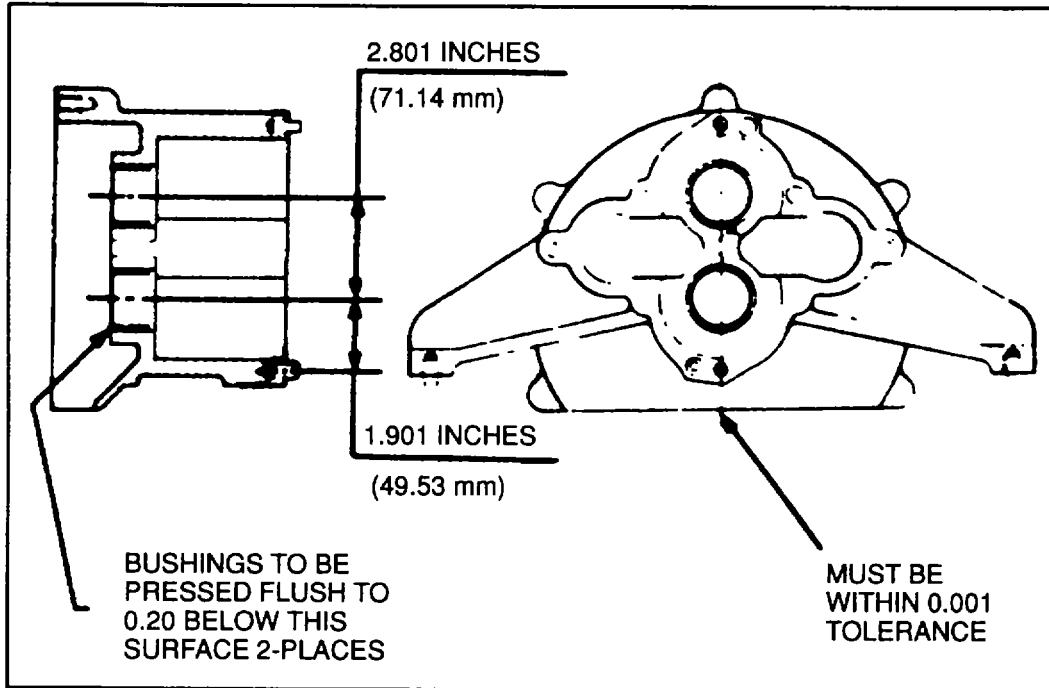
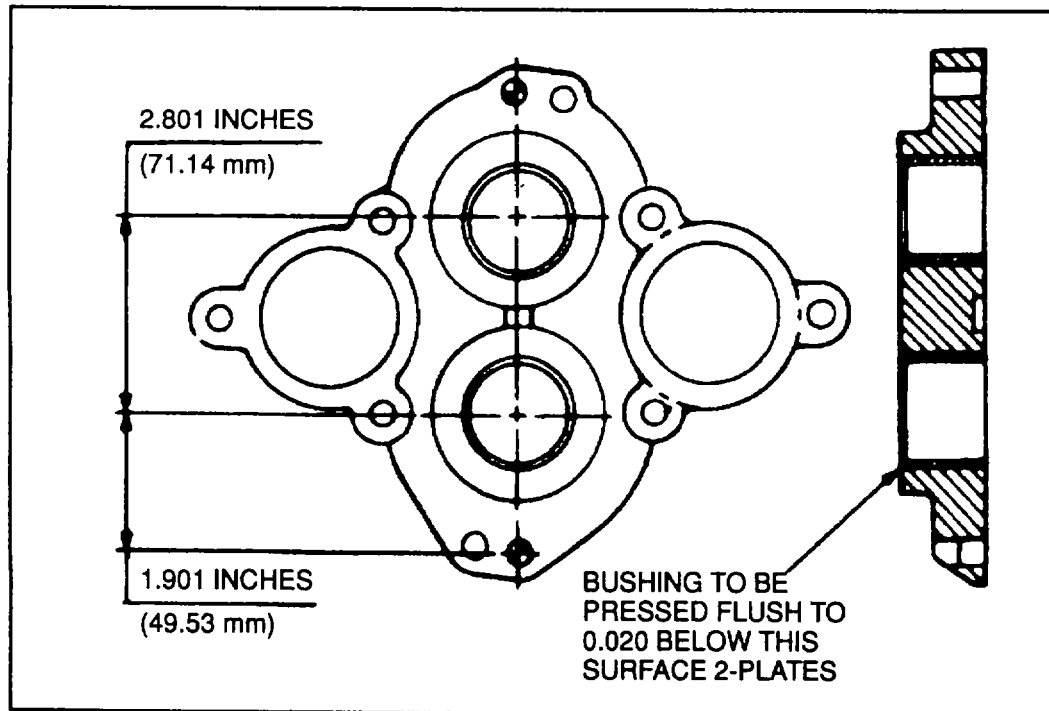

Figure 8-5. Dimensions of the Bushings In the Lubricating Oil Pump Body
Figure 8-6. Dimensions of the Bushings In the Lubricating Oil Pump Cover
- (1) Using bushing drivers and an arbor press, remove the worn bushings and press new bushings to depth shown in Figure 8-5 and Figure 8-6.
- (2) Using boring tool 3375206 bore the inside diameter of the new bushings in the body and/or cover to 1.5025 to 1.5040 inches (38.164 to 38.202 mm). The bored bushings must be within the dimensions shown in Figure 8-5 and Figure 8-6.